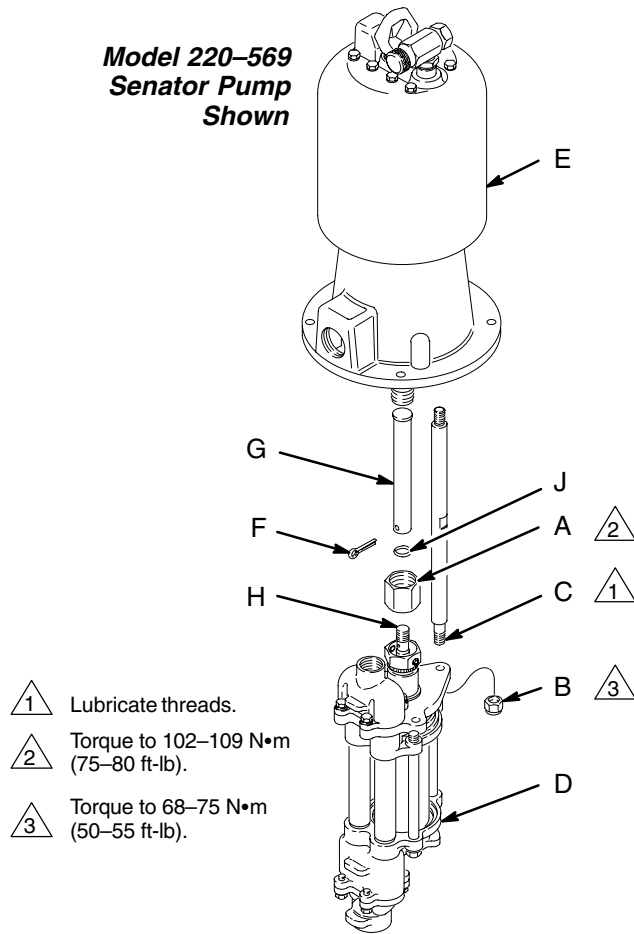

Fig. 5
Unscrew the coupling nut (A). Unscrew the locknuts (B) from the tie rods (C). Pull the displacement pump (D) off the motor (E). Remove the pin (F) and screw the coupling (G) off the piston rod (H). See Fig. 5.
Make sure the o-ring (J) is in place in the coupling (G). Screw the coupling onto the piston rod (H) and install the pin (F). Orient the displacement pump (D) to the motor (E) as shown in Fig. 5. Position the displacement pump (D) on the tie rods (C). Lubricate the threads of the tie rods. Screw the locknuts (B) onto the tie rods loosely. Screw the coupling nut (A) onto the motor shaft and torque to 102–109 N•m (75–80 ft-lb). Torque the tie rod locknuts to 68–75 N•m (50–55 ft-lb).